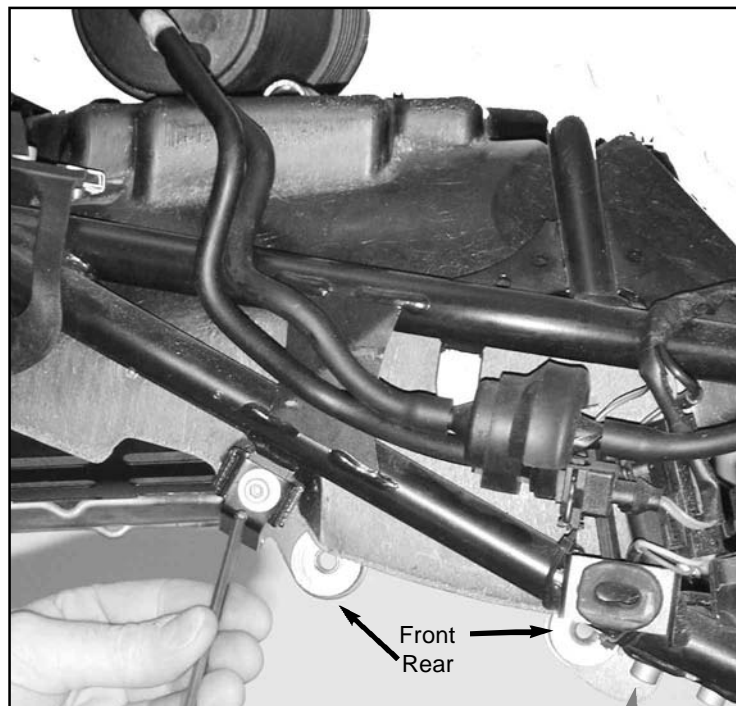

Figure 3
6. Remove the rear steel bracket, (Hex Key Wrench, 4mm). Return the screw to its original location and tighten to 4Nm (2.9 ft. lbs.) Figure 3.
Remove the front steel bracket, (Hex Key Wrench, 5mm and Wrench, 10mm). Retain the fastener. Figure 3.